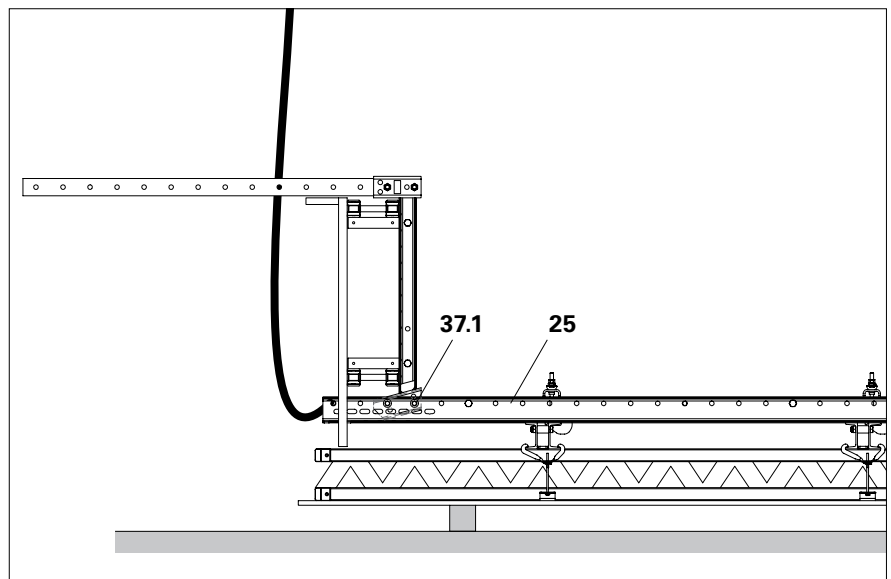

Fig. C1.11
7. Attach the Strongback to the crane lifting gear and turn the formwork. (Fig. C1.11)